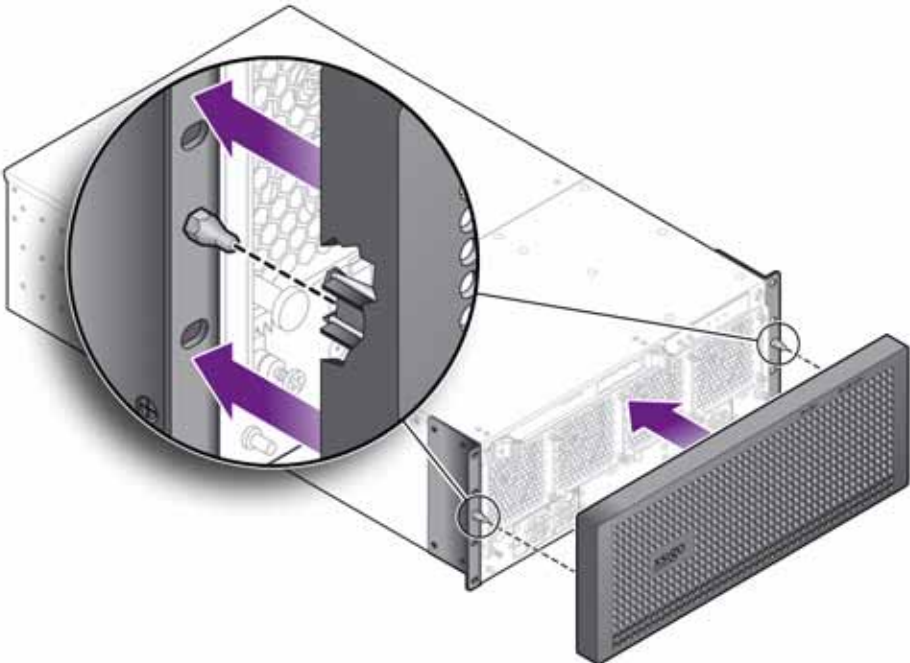

Figure 9 Seating the Bezel on the Mounting Pins
- Step 25** Holding the bezel level, align the slots on the inside of the bezel with the mounting pins on the front mounting brackets, and gently push the bezel to seat it on the front of the chassis. Figure 9 on page 22 shows seating the bezel on the front of a VP780.